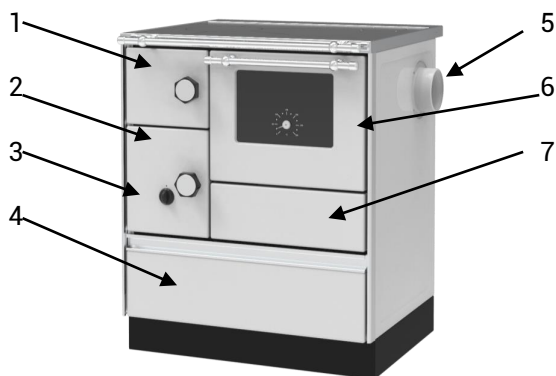

Figure 1 - Alfa 70 Favorit
- Power control (Figure 1,2,3 position 3) should open and close the valve by means of regulation button.